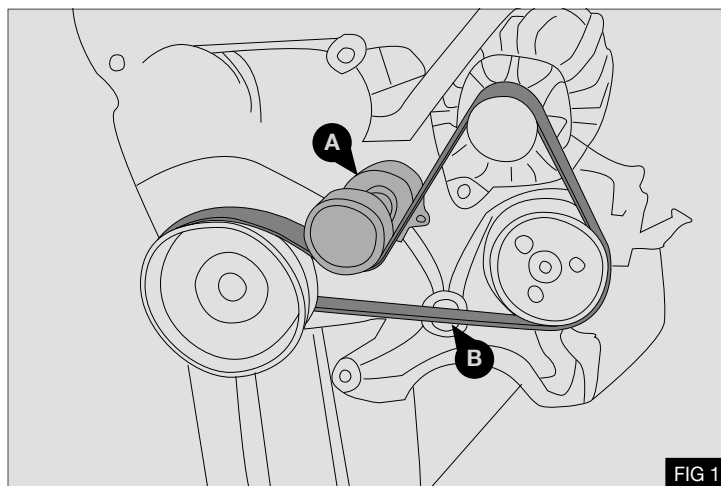

FIG 1
3. Remove and discard the original manufacturers poly groove drive belt (B) - Fig 1